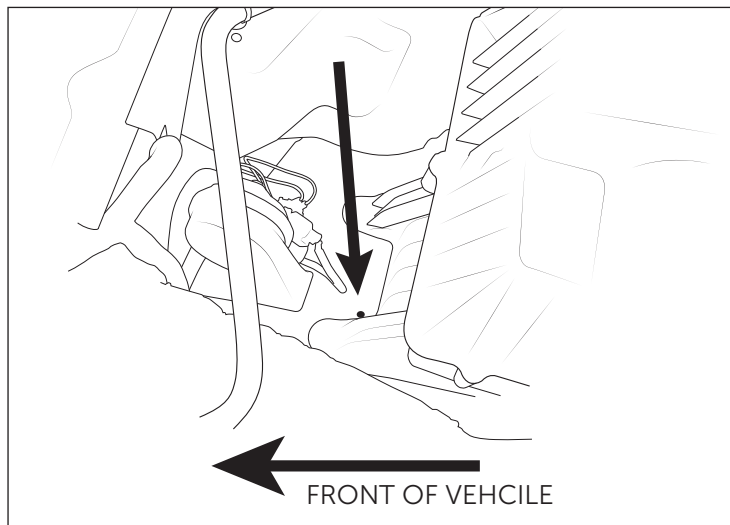

Figure 7
3. Install supplied bolt through the tab at the bottom of the bracket into the existing hole shown and secure with supplied flange nut (fig. 7). NOTE: Some vehicles may have plastic clip that will need to be removed.